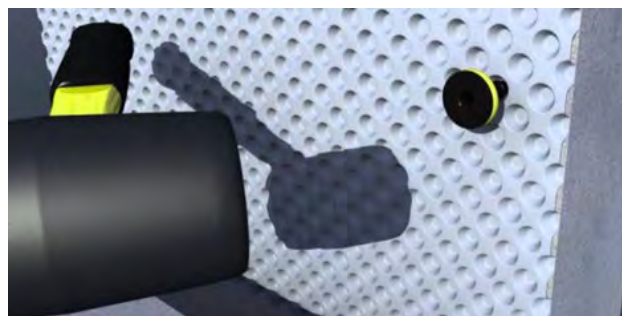

Figure 8 Wall membrane fixing illustration
- The cavity drain membrane will be fixed to the walls as indicated in Figure 8 below: